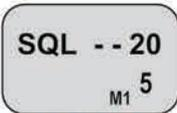

Figure 1
4. Adjust the Squelch by pushing the "SQL" softkey, then rotate the tuning dial to desired squelch level (00 - 24). (See Figure 1)